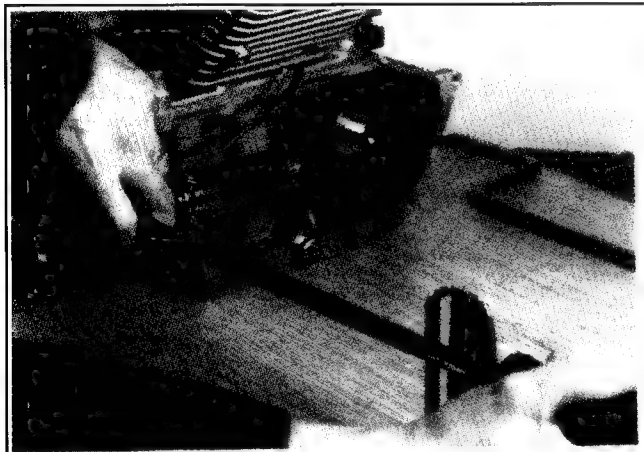

Figure 11-22. Torque Oil Sentry™ Switch.
2. Torque the Oil Sentry™ switch to a maximum of **3.4 N·m (30 in. lbs.)** as shown in Figure 11-22. **Do not overtighten the switch. The switch has pipe thread (tapered) and it will crack the adapter if overtightened.**